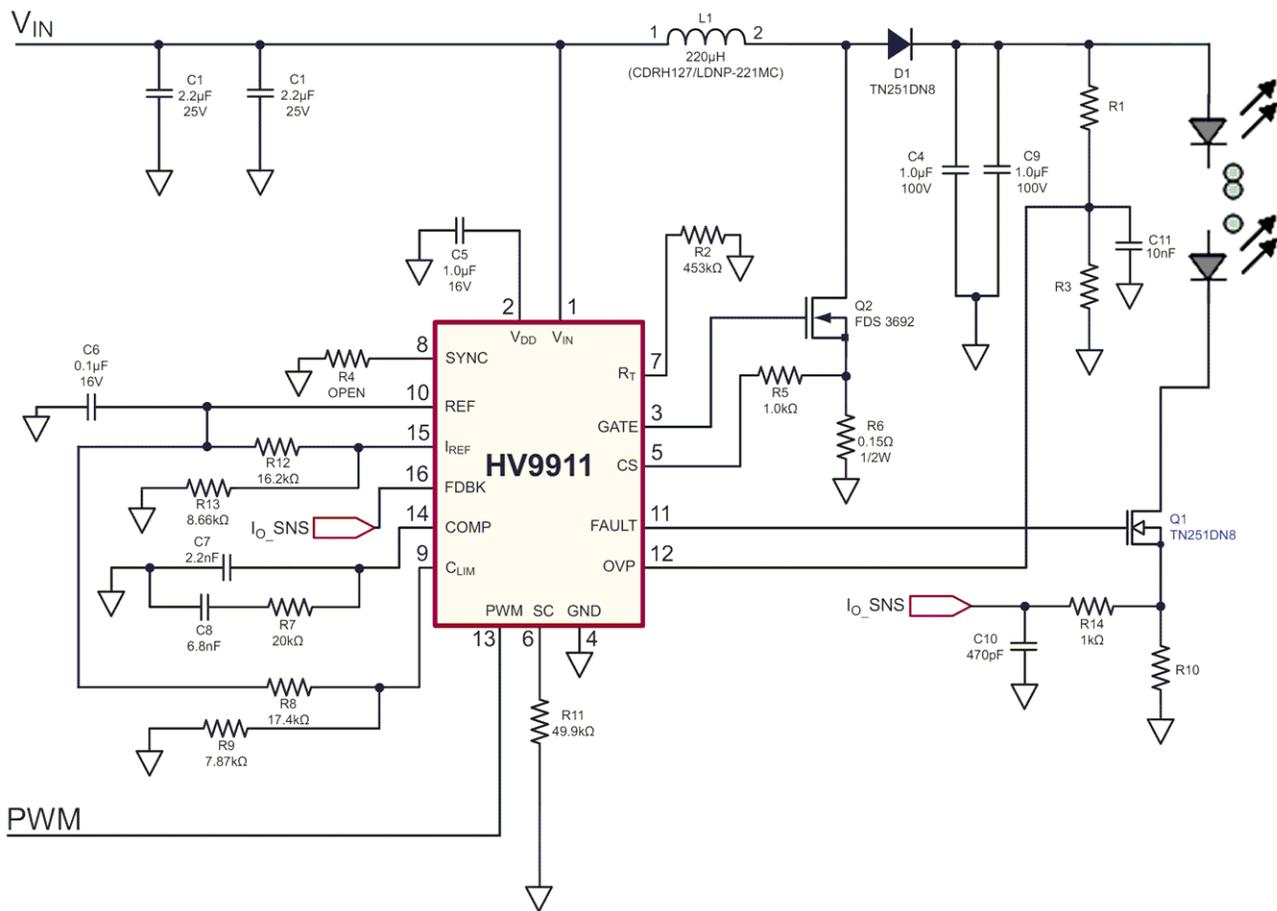

Figure 7. HV9911 LED driver circuit
The typical circuit is shown in figure 7 for continuous conduction mode boost LED driver.
Table 2 shows the R1, R3 and R10 values for Figure 7 circuit.
**Table 2. Resistor selection for circuit in Figure 7.**